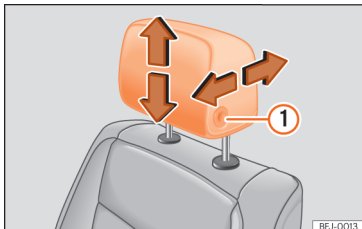

Fig. 20 Front seat: adjusting the head restraint.
To adjust the height, press side button » » » Fig. 20 ① and, at the same time, move it up or down to the desired position. The head restraint must lock correctly in one position.
To adjust it longitudinally, move it forwards or backwards while pressing the button on the side » » » Fig. 20 ①.